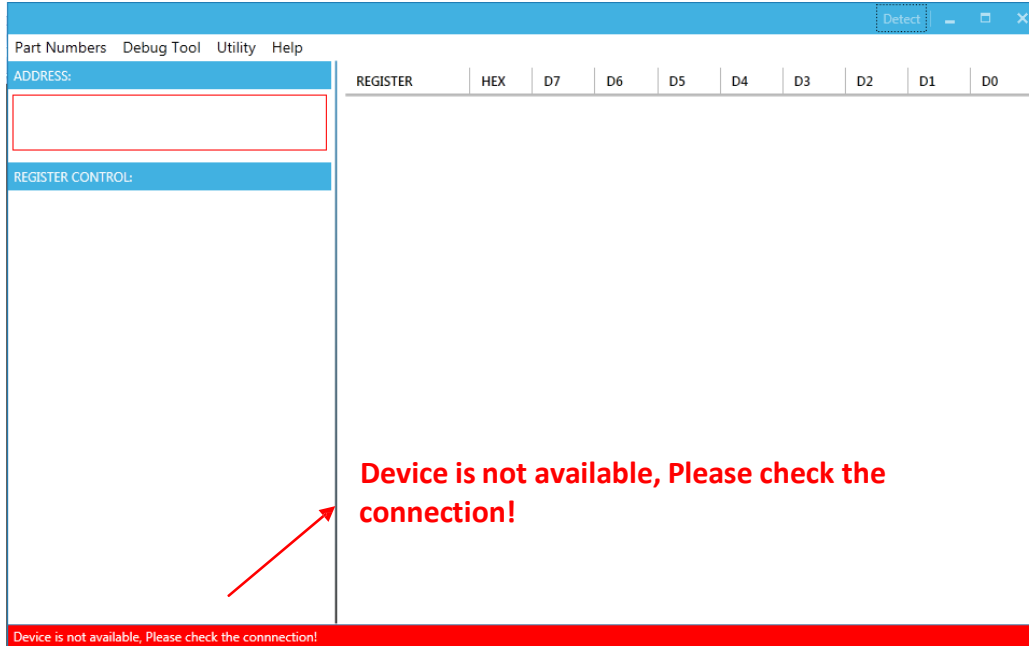

Figure 9: Warning Indicates Unsuccessful Connection – USB I²C Communication Interface Not Connected
- “Device is not available, Please check the connection!” This means that the USB I²C communication interface is not connected (see Figure 9).
The screenshot shows the same software window as Figure 9, but now it displays a table of I²C register values. The 'ADDRESS' field is set to '60'. The 'REGISTER CONTROL' menu is expanded to show 'ILIM' and 'REGISTER MAP'. The table on the right contains the following data: